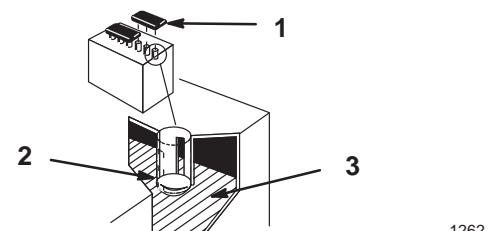

Figure 27
2. Open covers to see into the cells. The electrolyte must be up to the lower part of the tube (Fig. 27).
IMPORTANT: Do not allow the electrolyte to get below the plates. (Fig. 27).
2. Lift off the filler caps (Fig. 27).
3. Slowly pour distilled water into each battery cell until the level is up to the lower part of the tube (Fig. 27).